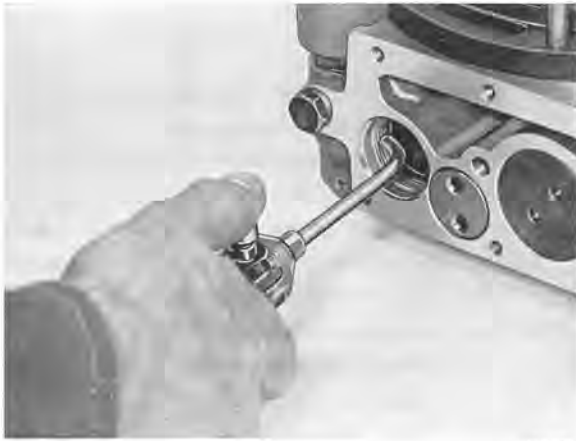

Fig. 4-47. Blowing orifice nozzle clean
4. Before fitting the parts of the relief valve, it may be suitable to blow the orifice nozzle clean with compressed air, see Fig. 4-47.
The orifice nozzle is accessible after the cylinder of the relief valve has been removed according to above. Blow the orifice nozzle clean with compressed air, see Fig. 4-47.